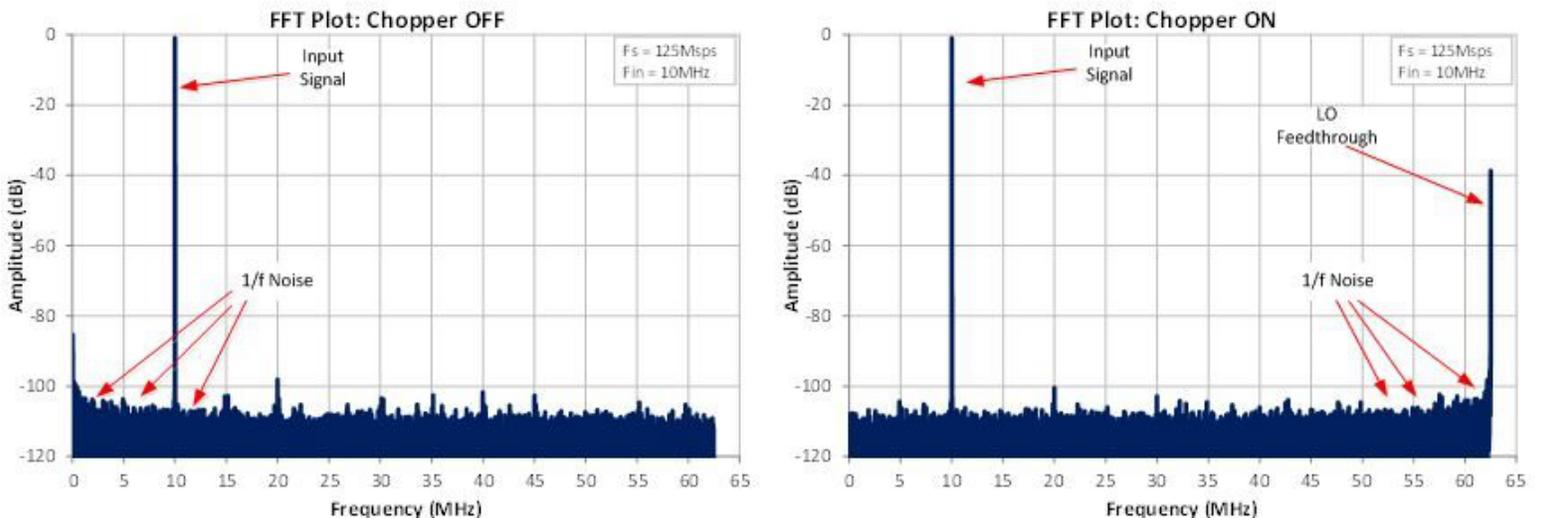

Figure 3. A 10MHz Input Signal with the Chopper Disabled (Left) and Enabled (Right)
The fast Fourier transform (FFT) spectrum with chopper disabled (Figure 3, left) shows the input signal along with the $1/f$ noise close to DC. After enabling the chopper feature, the input signal remains unchanged at 10MHz, while the low-frequency $1/f$ noise is now shifted to the opposite side of the Nyquist zone at $F_s/2$.
The chopper feature does bring one additional, unwanted byproduct. As you can see in the FFT plot on the right side of Figure 3, the passive mixer also generates a large spur at $F_s/2$. This is known as the local oscillator (LO) feedthrough, where the LO input is coupling into the output spectrum. This spur, along with the unwanted $1/f$ noise, is far away from the frequency range of interest; however, you can remove both with a digital filter.